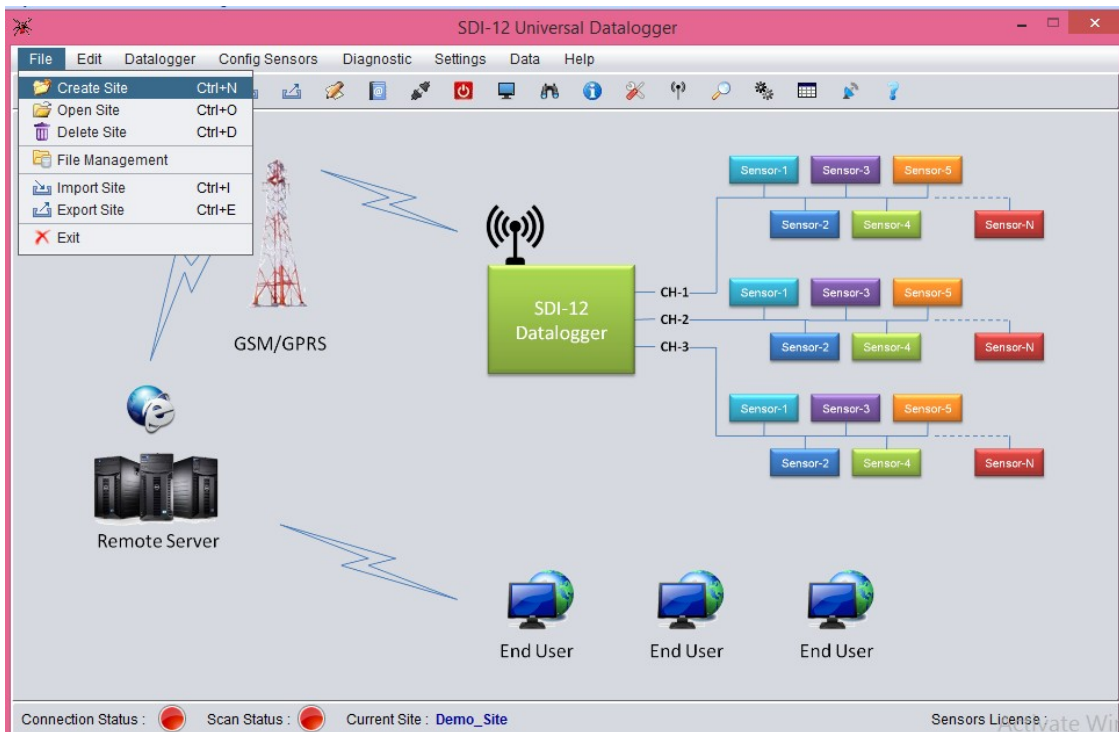

Figure 17 Home screen of EDSL-30UNI Configuration Manger Software
- 1 Double click the SDI-12 Universal datalogger software icon on the Desktop. Then click “File” followed by “Create Site” as shown in figure 17 below: